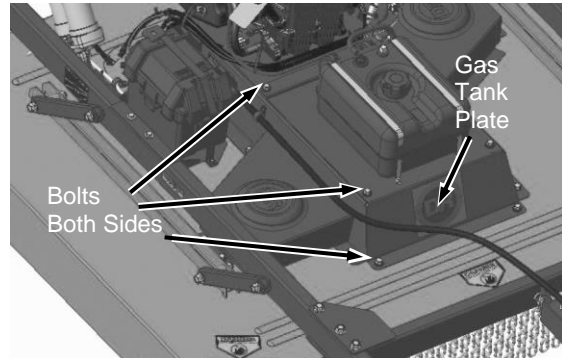

Figure 51
2. Remove six Bolts securing Gas Tank Plate using a 9/16 in Wrench (**Figure 51**).
12. Reinstall Gas Tank Plate, making sure Fuel Line, Vapor Lines, and Wire Harness do not get pinched under the Plate (**Figure 51**).